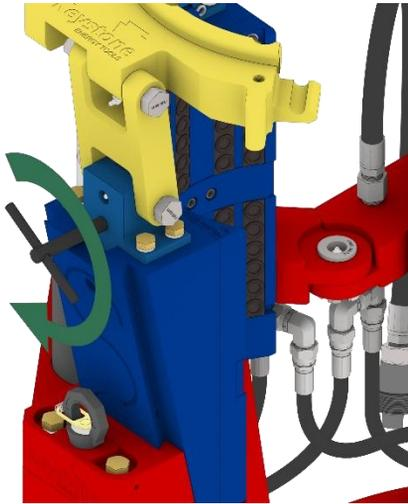

Fig. 12
Step 4: By turning the T-handle tool clockwise the latch will slide back into the housing far enough for the insert carrier to not be held in by the latch. See figure 12 & 13.